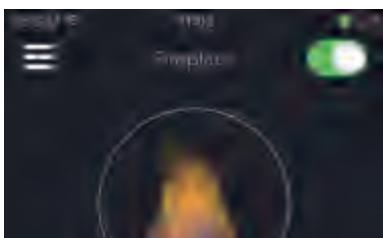

Fig. 7 Connected to Fireplace
8. Make sure the right corner button is "ON" (Fig.7)